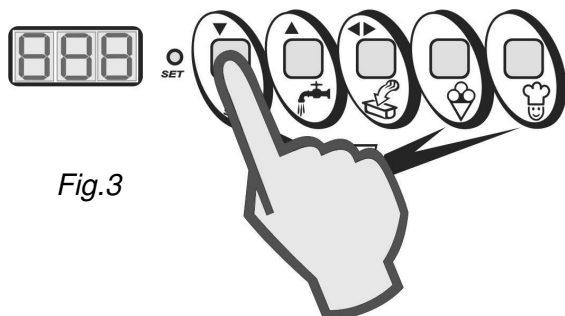

Fig.3
- When all the product has come out of the door, press the STOP key to stop the machine and re-close the dispenser disk (Fig.3).